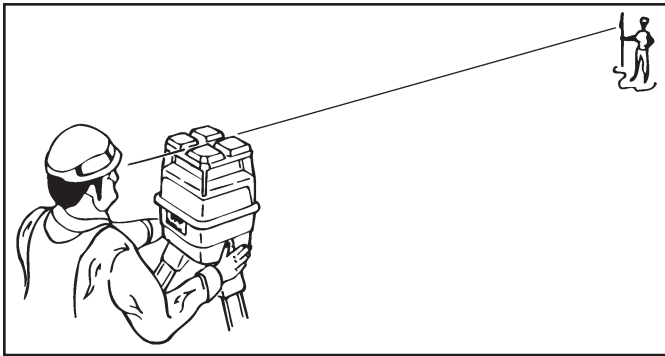

Figure 24. Sight Over Rotating Laser
5. Roughly align one of the axis to the grade stakes by sighting over the top of the Rotating Laser (Refer to Figure 24).
4. Roughly align one of the axis to the grade stakes by sighting over the top of the Rotating Laser (Refer to Figure 24).